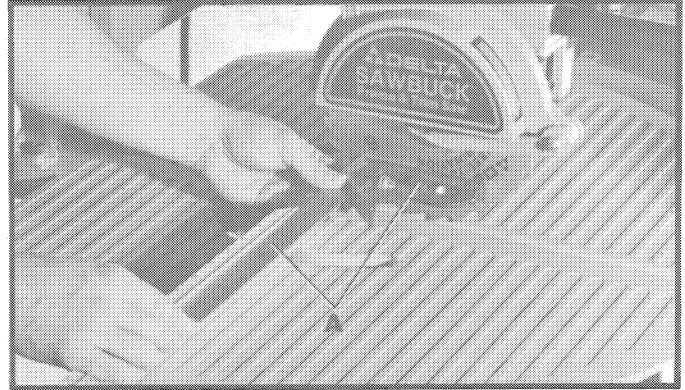

Fig. 36
3. Place a square (A) Fig. 36, against the top portion of the fence with the other end of the square against the saw blade, as shown, and check to see if the blade is at 90 degrees to the fence.